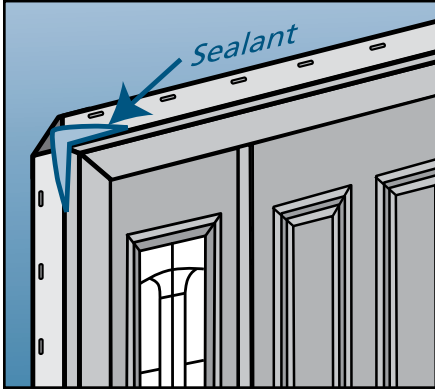

Fig. 46
- Use the back of a spoon (or similar shape) to form sealant into fillet shape (**Fig. 46**).